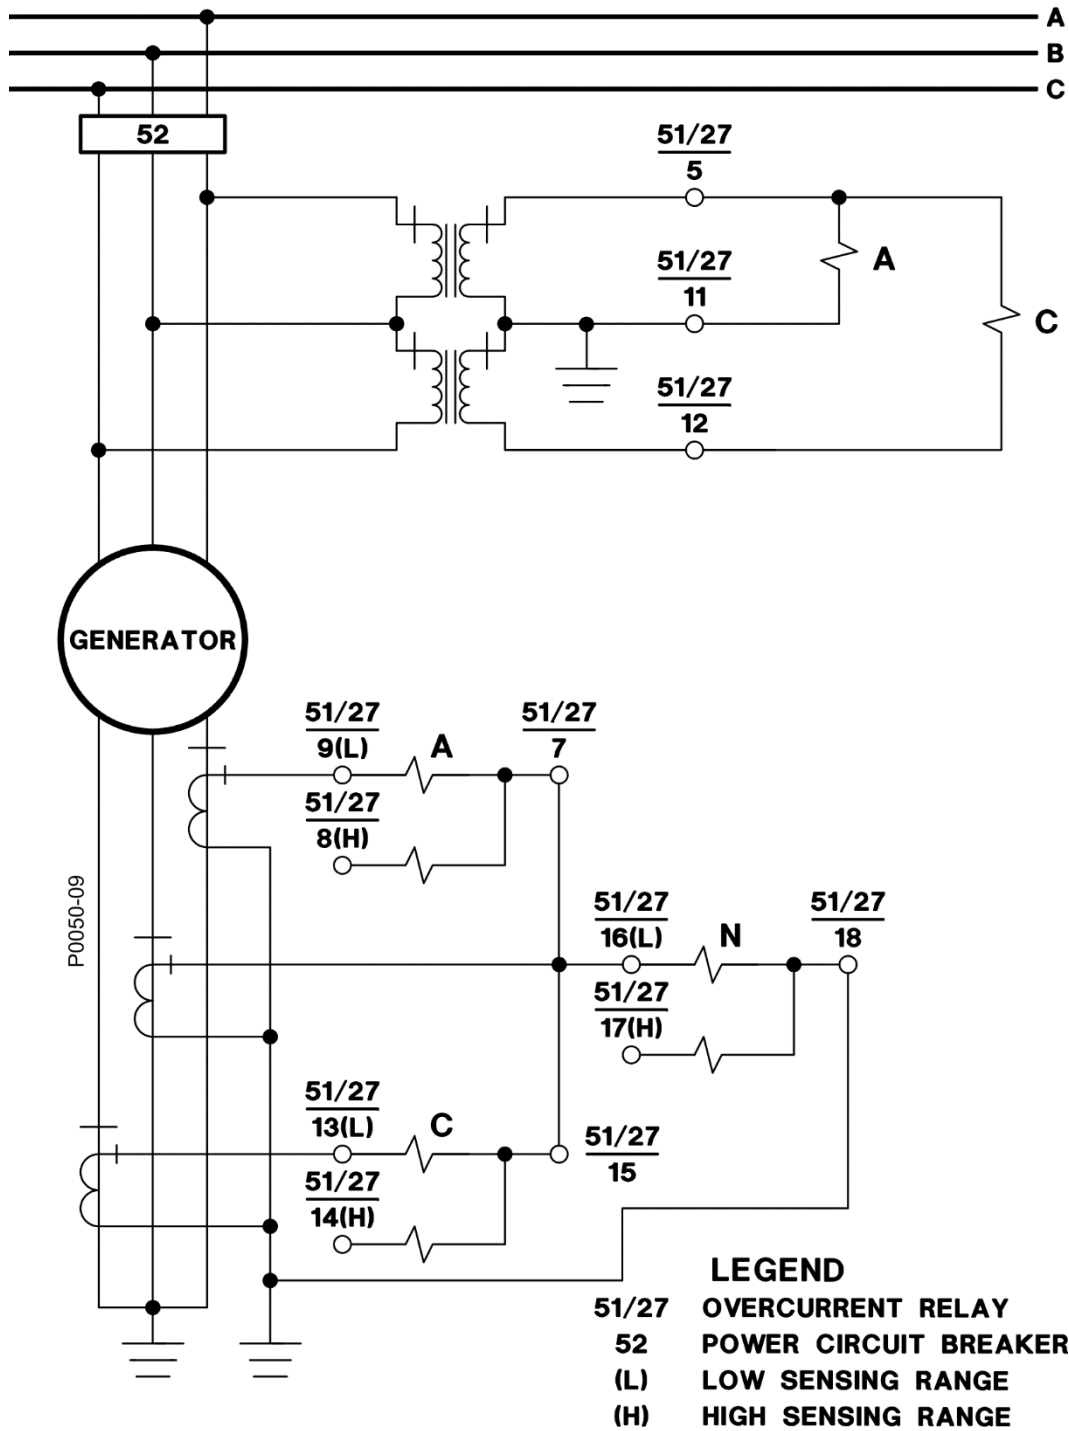

Figure 4-19. Typical Sensing External Connections, Sensing Input Type J
- Figure 4-19: Typical Sensing External Connections, Sensing Input Type J